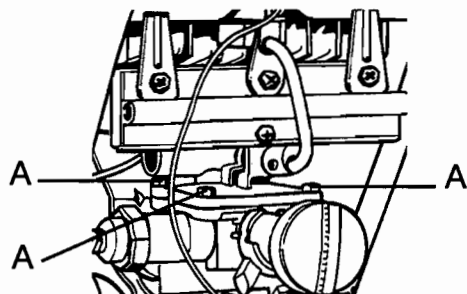

Fig. 10
a) Remove the four screws (A) fastening the burner base to the gas section (see fig. 10).